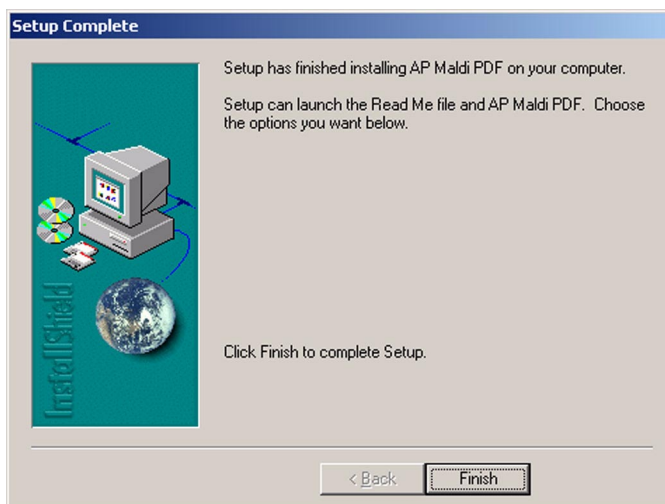

Figure 51 Target software setup completed window
- 6 After the installation has completed, a window displays confirming that the installation has completed successfully. See Figure 51.